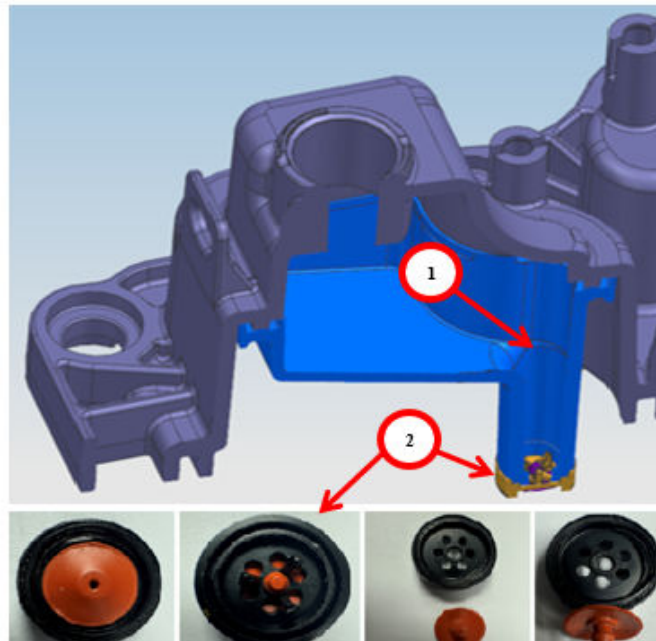

Fig. 4
4. With the PCV valve removed, insert a borescope into the PCV valve opening Fig. 4 to inspect if the umbrella valve is missing or present Fig. 5 Fig. 6.